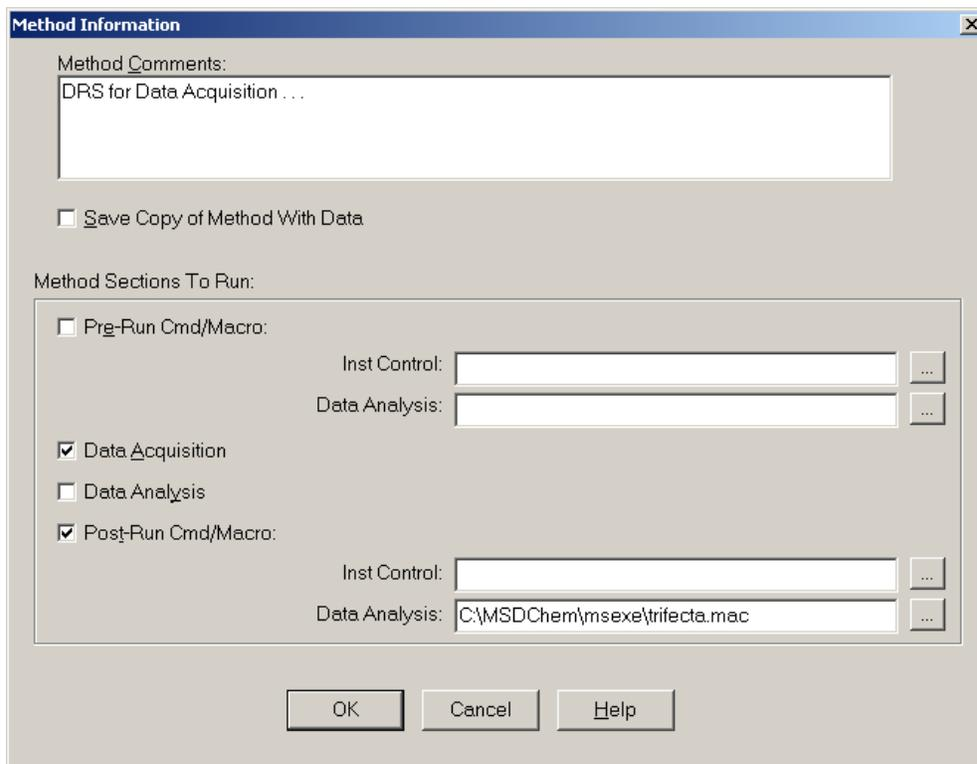

Figure 24 MS Method Information: Data Acquisition & Post Run Cmd/Macro entry
- Step 3** Select (enable) the **Data Acquisition** check box since new data does not presently exist (see Figure 24 on page 40).